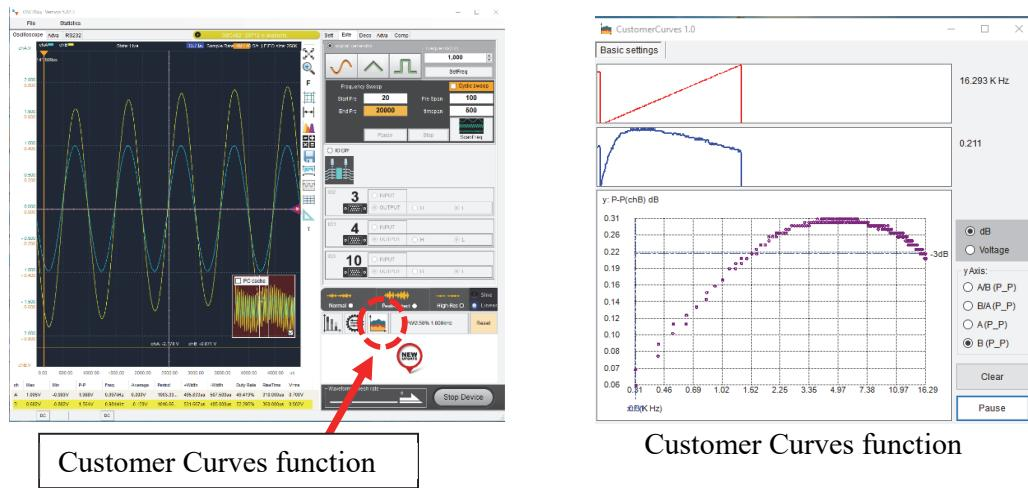

Fig. 18
- 5.3.15 The third way is to use the Customer Curves function  to view the whole desire frequency spectrum, as shown in Fig. 18. You could refer to the video (video8-use\_customer\_curve.mp4) for demonstration. The frequency is displayed in log scale in x-axis. You could get an idea how the curve looks like.